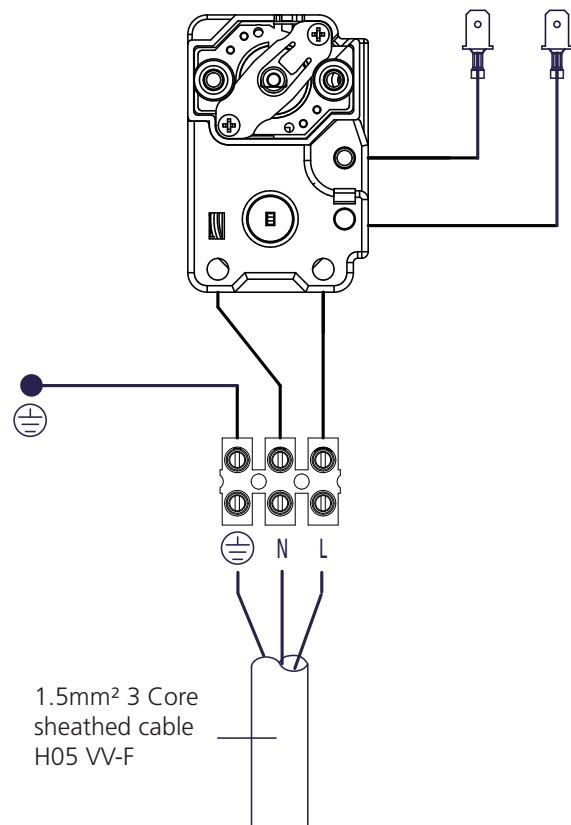

Fig. 6: Electrical connections (direct schematic)
DO NOT BYPASS THE THERMAL CUT-OUT(S) IN ANY CIRCUMSTANCES. Ensure the two male spade terminations from the combined thermostat and thermal cut-out are pushed firmly onto the terminations on the element plate assembly. (See Fig. 6)
The immersion heater(s) should be wired in accordance with Fig 6. The immersion heater(s) MUST be earthed. The supply cable should be 1.5mm² 3 core flexible cable H05 VV-F to BS EN 50525-2-21:2011 and must be routed through the cable grip provided with the outer sheath of the cable firmly secured by tightening the screws on the cable grip.